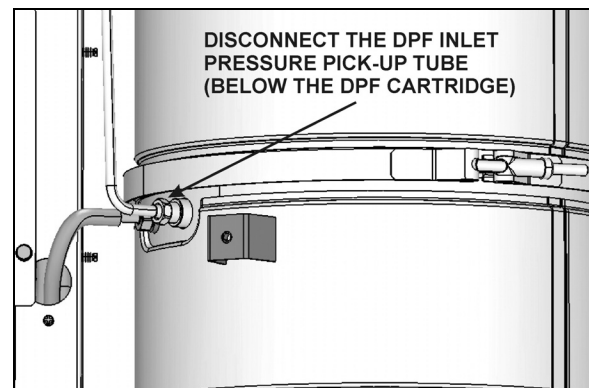

FIGURE 6: DISCONNECTING THE LOWER PRESSURE PICK-UP TUBE (VOLVO D13 ONLY)
| FIGURE 6: DISCONNECTING THE LOWER PRESSURE PICK-UP TUBE (VOLVO D13 ONLY) .....   | 4 |
6. **With Volvo D13 engine:** Disconnect the DPF inlet pressure pick-up tube, this will help to clear the way off for removal of the DPF cartridge from the compartment (figure 6).